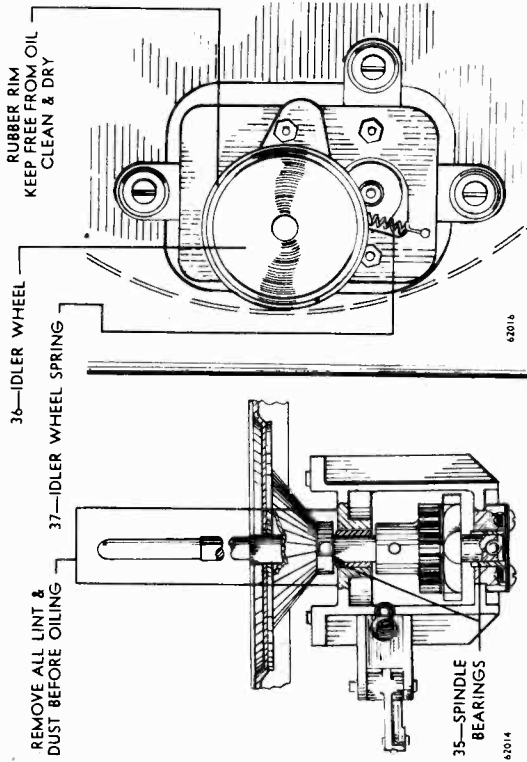

FIGURE 23.
M. TURNABLE SPEED should be checked with a stroboscopic disc under running conditions and with the needle on a record. Slow speed may be produced by lack of lubrication in the spindle bearings (35) or slipping of the idler wheel (36). In the latter case, examine for a weak idler spring (37) or for oil in the rubber rim which must be clean and dry. (See fig. 23)